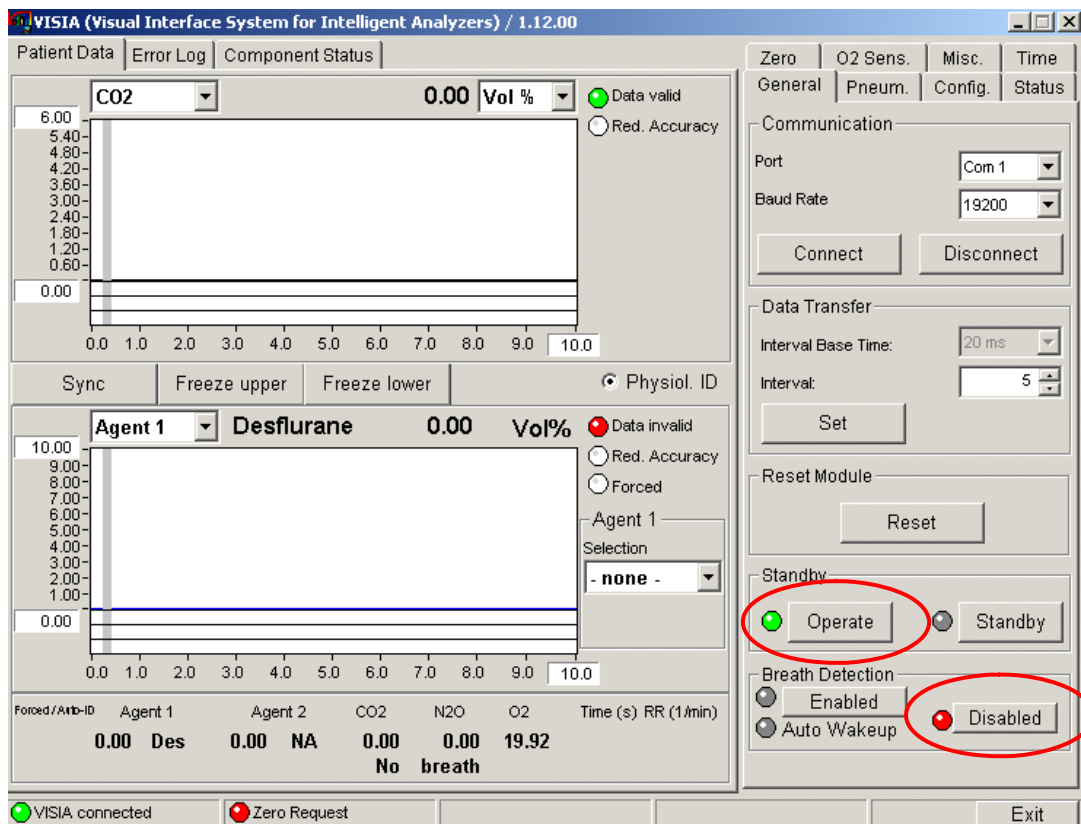

Figure 7 General Tab in VISIA tool
- 2 Switch Breath Detection to *Disabled* (as shown in Figure 7) and